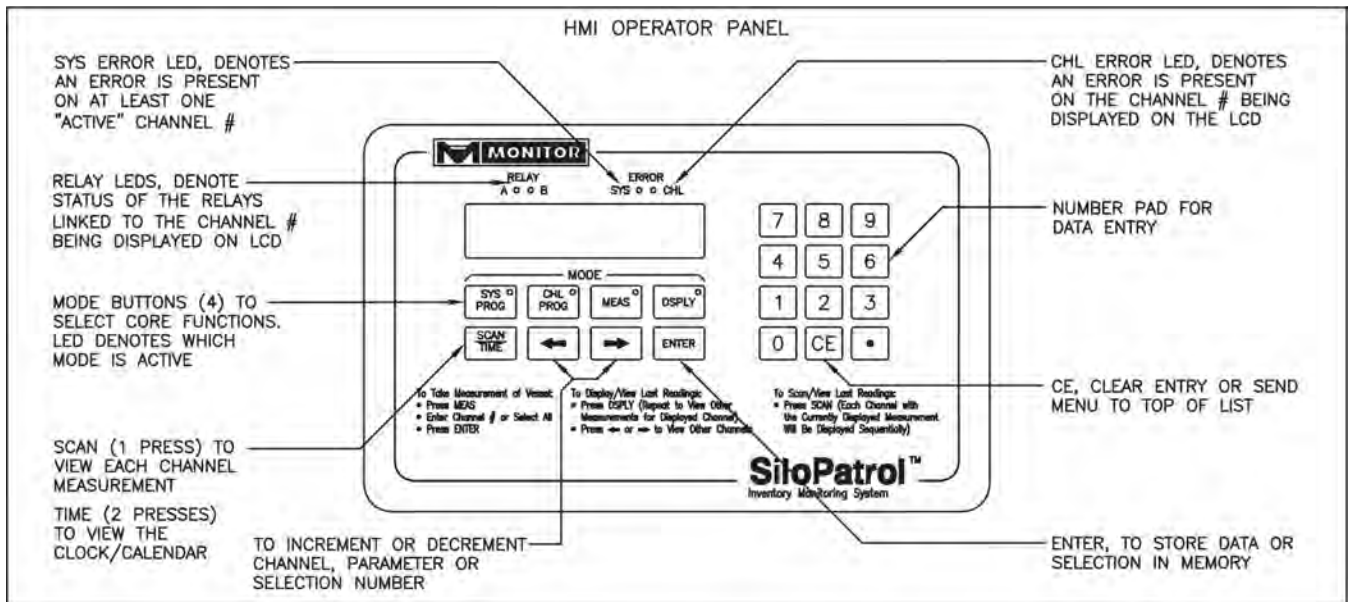

Figure 4
4.3 The Operator Panel (See Figure 4)